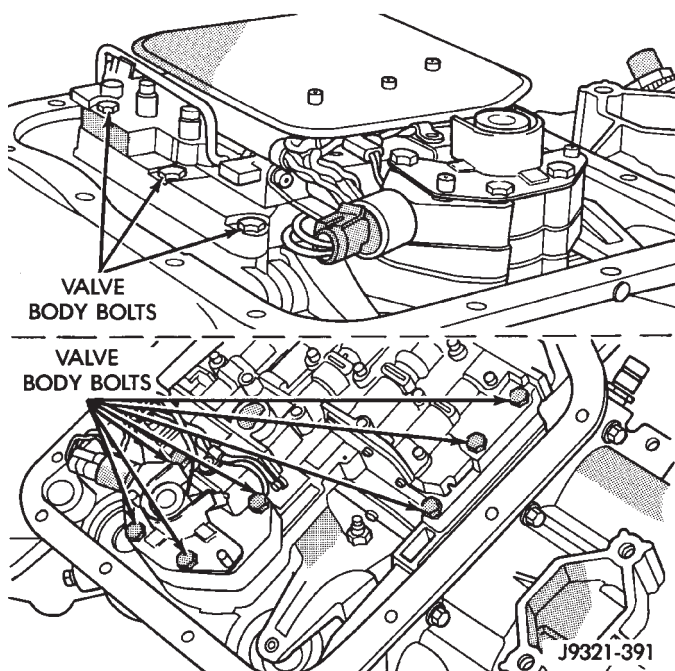

Fig. 10 Valve Body Bolt Locations
- (15) Remove hex head bolts attaching valve body to transmission case (Fig. 10). A total of 10 bolts are used. Note different bolt lengths for assembly reference.